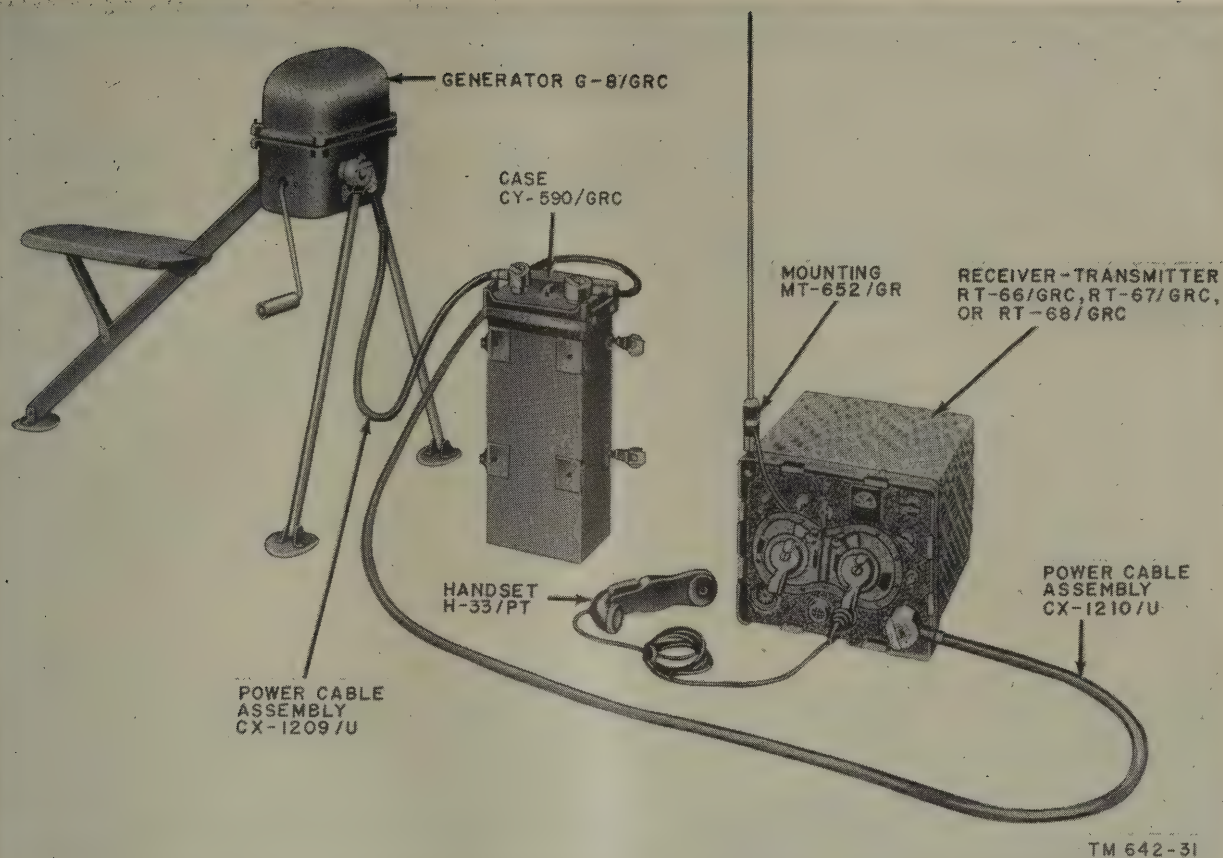

Figure 70. Field operation of receiver-transmitter with Generator G-8/GRC and Case CY-590/GRC.
- (3) The crank of the generator is rotated by a single operator seated on the seat leg (fig. 65). The generator should not be operated unless properly connected to the receiver-transmitter, either directly to the receiver-transmitter panel or through the battery box (Case CY-590/GRC) (fig. 70 or 71). See TM 11-5037 for detailed information on the generator.
143. Installation of Receiver-transmitter with Generator G-8/GRC and Case CY-590/GRC (fig. 70)
b. Set up the generator, battery case, and Set 1 as illustrated in figure 70. Refer to the manual supplied with the generator for detailed information (TM 11-5037). Turn the OFF-ON-REMOTE CONTROL switch of the battery case to the OFF position.